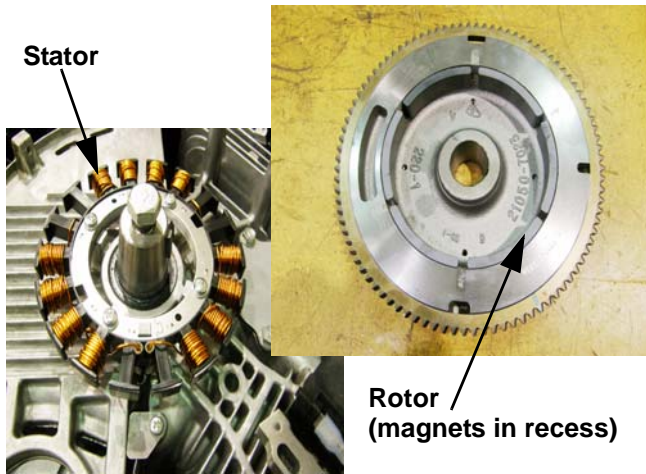

Figure 7.15
1. When the engine is running, magnets attached to the underside of the flywheel induce AC (Alternating Current) in the stator that is mounted beneath the flywheel. See Figure 7.15.